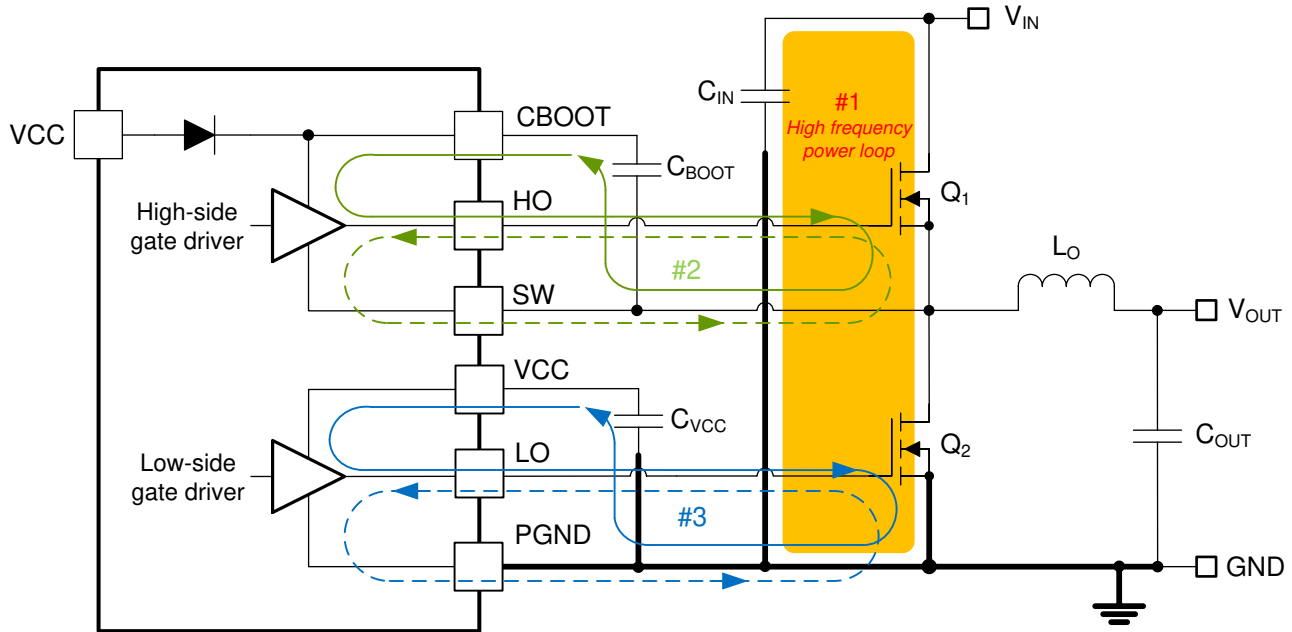

图 9-46. DC/DC Regulator Ground System With Power Stage and Gate Drive Circuit Switching Loops
Proper PCB design and layout is important in a high-current, fast-switching circuit (with high current and voltage slew rates) to achieve a robust and reliable design. As expected, certain issues must be considered before designing a PCB layout using the LM5148-Q1. The high-frequency power loop of a buck regulator power stage is denoted by loop 1 in the shaded area of 图 9-46. The topological architecture of a buck regulator means that particularly high di/dt current flows in the components of loop 1, and it becomes mandatory to reduce the parasitic inductance of this loop by minimizing its effective loop area. Also important are the gate drive loops of the high-side and low-side MOSFETs, denoted by 2 and 3, respectively, in 图 9-46.
- Loop 1: The most important loop area to minimize is the path from the input capacitor or capacitors through the high- and low-side MOSFETs, and back to the capacitor or capacitors through the ground connection. Connect the input capacitor or capacitors negative terminal close to the source of the low-side MOSFET (at ground). Similarly, connect the input capacitor or capacitors positive terminal close to the drain of the high-side MOSFET (at V_{IN}). Refer to loop 1 of 图 9-46.
- The SW pin connects to the switch node of the power conversion stage and acts as the return path for the high-side gate driver. The parasitic inductance inherent to loop 1 in 图 9-46 and the output capacitance (C_{OSS}) of both power MOSFETs form a resonant circuit that induces high frequency (greater than 50 MHz) ringing at the SW node. The voltage peak of this ringing, if not controlled, can be significantly higher than the input voltage. Make sure that the peak ringing amplitude does not exceed the absolute maximum rating limit for the SW pin. In many cases, a series resistor and capacitor snubber network connected from the SW node to GND damps the ringing and decreases the peak amplitude. Provide provisions for snubber network
- Loop 2: high-side MOSFET, Q_1 . During the high-side MOSFET turnon, high current flows from the bootstrap (boot) capacitor through the gate driver and high-side MOSFET, and back to the negative terminal of the boot capacitor through the SW connection. Conversely, to turn off the high-side MOSFET, high current flows from the gate of the high-side MOSFET through the gate driver and SW, and back to the source of the high-side MOSFET through the SW trace. Refer to loop 2 of Figure 9-46.
- Loop 3: low-side MOSFET, Q_2 . During the low-side MOSFET turnon, high current flows from the VCC decoupling capacitor through the gate driver and low-side MOSFET, and back to the negative terminal of the capacitor through ground. Conversely, to turn off the low-side MOSFET, high current flows from the gate of the low-side MOSFET through the gate driver and GND, and back to the source of the low-side MOSFET through ground. Refer to loop 3 of Figure 9-46.